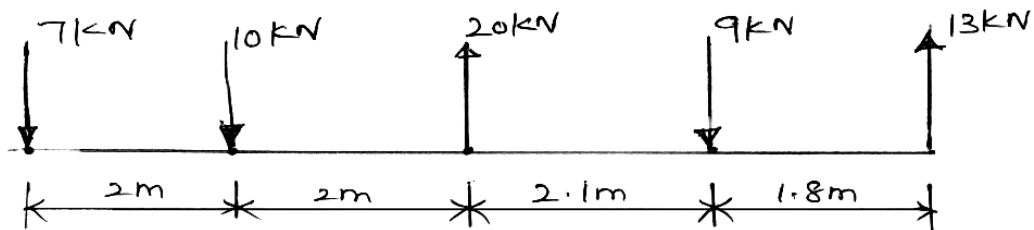

Fig. Q.11(b)
- (b) Find the magnitude and position of the resultant of the system of forces shown in Fig. Q.11(b).